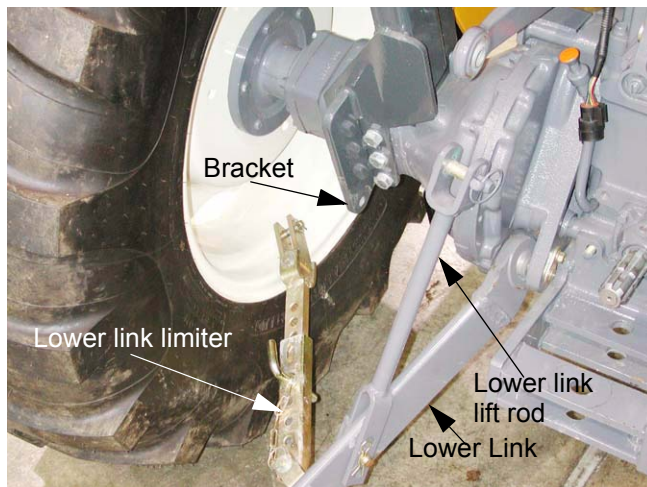

Figure 1.14
- 1.14. Disconnect the lower link limiter from the R.O.P.S. bracket on the axle by removing the hairpin clip and clevis pin. See Figure 1.14.